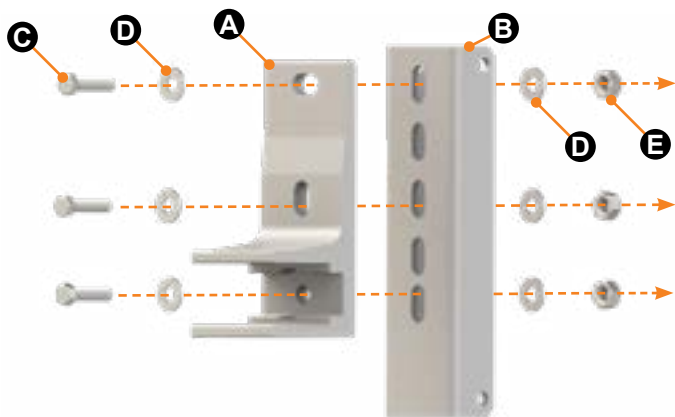

Fig.41
1. Affix a wall bracket (Fig. 41A) to an awning-side roof bracket (Fig. 41B) using three M10 x 35mm bolts (Fig. 41C), six 26mm x 10mm Flat Washers (Fig. 41D), and two M10 locking nuts (Fig. 41E). Make sure the side of the awning side roof bracket with fewer holes is oriented downwards as depicted in Figure 41.